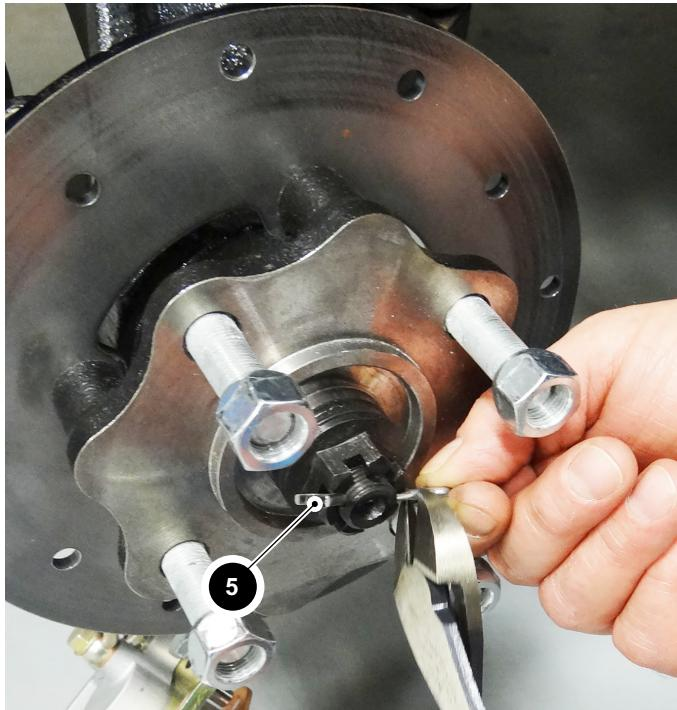

Fig. 2 Cotter Pin
4. At the center of the hub, remove the cotter pin (5), axle nut (4) and washer (17) from the axle. (Ref. Fig. 2)(Ref. Fig. 3)
- Install a new cotter pin through the axle nut and axle. Bend the cotter pin (5) around the axle to secure (See Fig. 2).